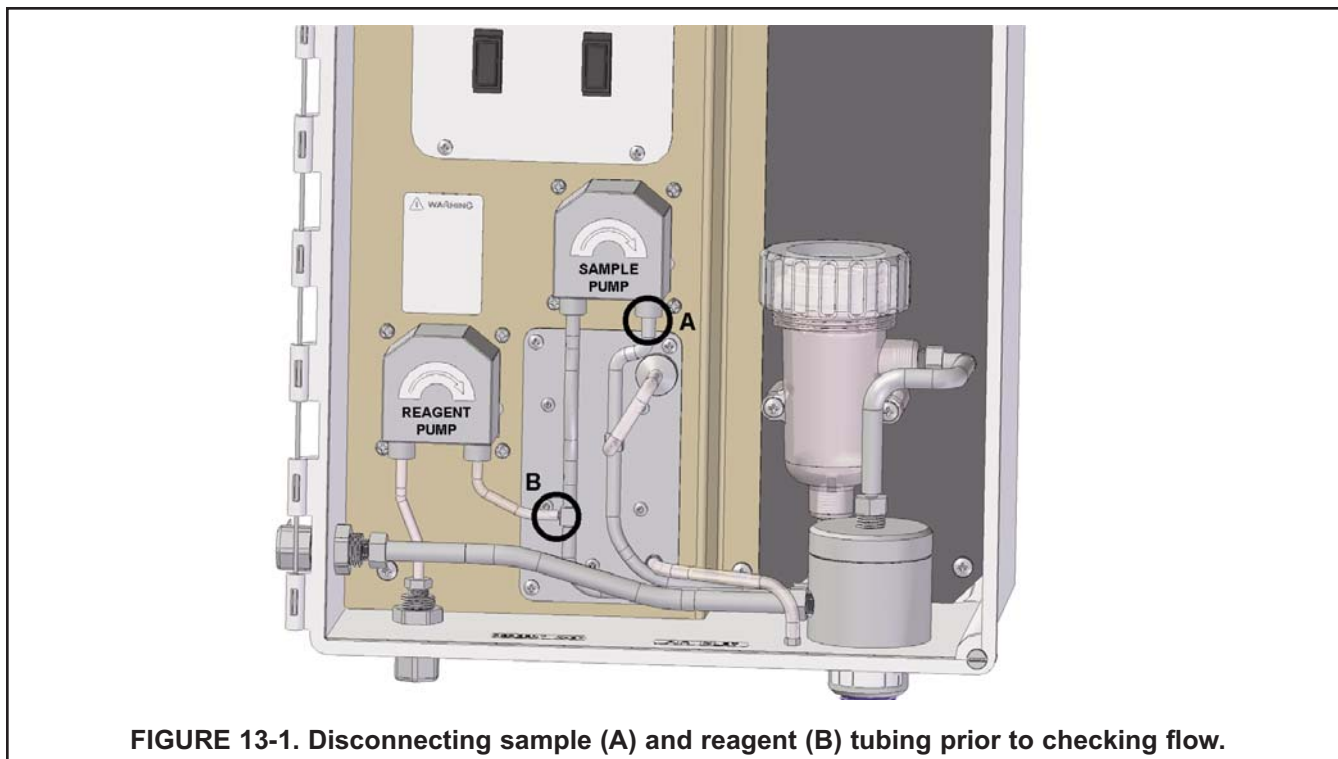

FIGURE 13-1. Disconnecting sample (A) and reagent (B) tubing prior to checking flow.
2. Disconnect the luer fitting on the discharge of the sample pump. See **A** in Figure 13-1.
2. Disconnect the reagent tubing at the injection tee. See **B** in Figure 13-1.